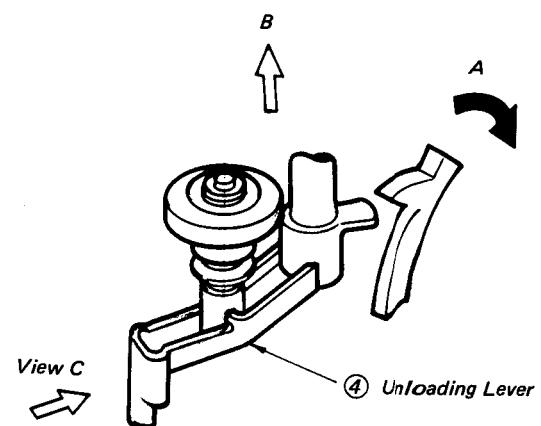

Fig. 5-41 Unloading Lever Detaching
4. Also, while pushing the reel chassis retainer pawl ② in the direction A ( $\curvearrowleft$ ) as if to bend, lift the unloading lever ④ in the upward direction B ( $\uparrow$ ) to position as in Fig. 5-41.